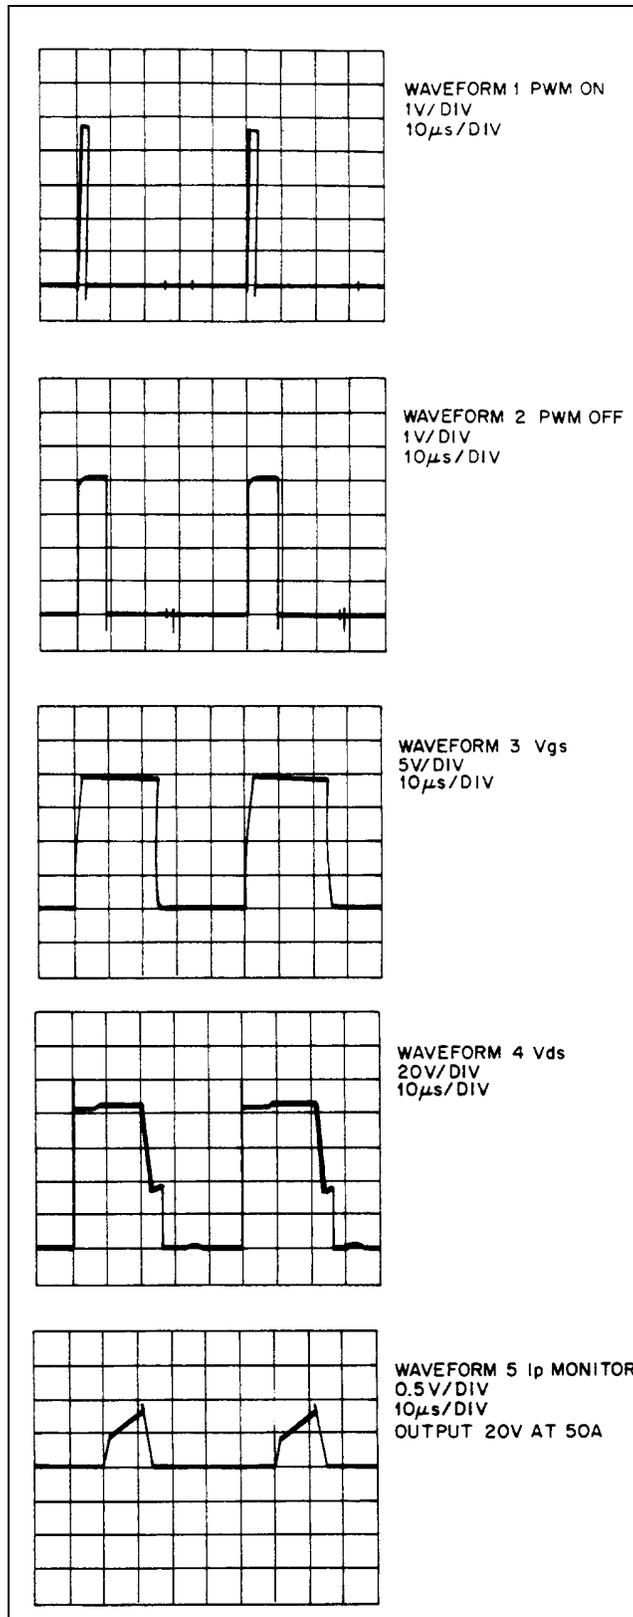

Figure 3-3. Waveforms
**Setup.** The Main Troubleshooting Setup, page 33. Apply the ac mains voltage to the isolation transformer, and set the external supply to 40Vdc. Set the unit's output voltage to 20Vdc and current to above 1A dc using "DISPLAY SETTINGS" switch. Verify that the UNREGULATED LED lights. See Figure 3-3 for waveforms.